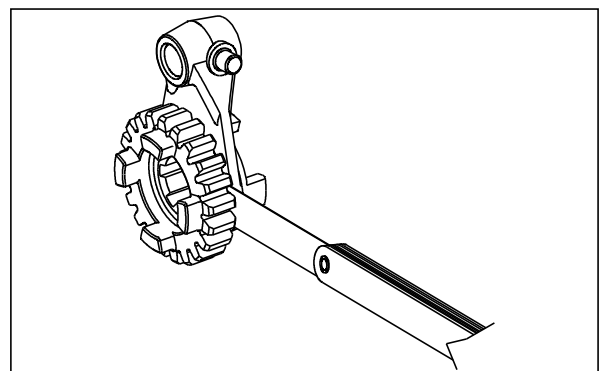

Fig. 3.174
- Using a feeler gauge, check the clearance between fork gear shift and its seating groove on the gear. (Fig. 3.174)